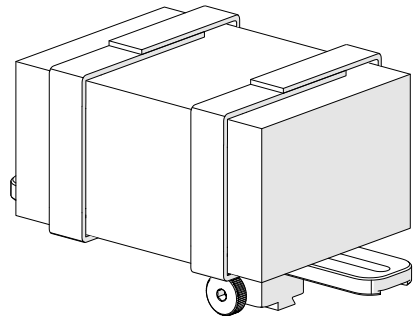

Fig. 194 - Mount bracket on a frame bar
3. Secure the preamp to the bracket attaching each side of the velcro (*Fig. 194*).